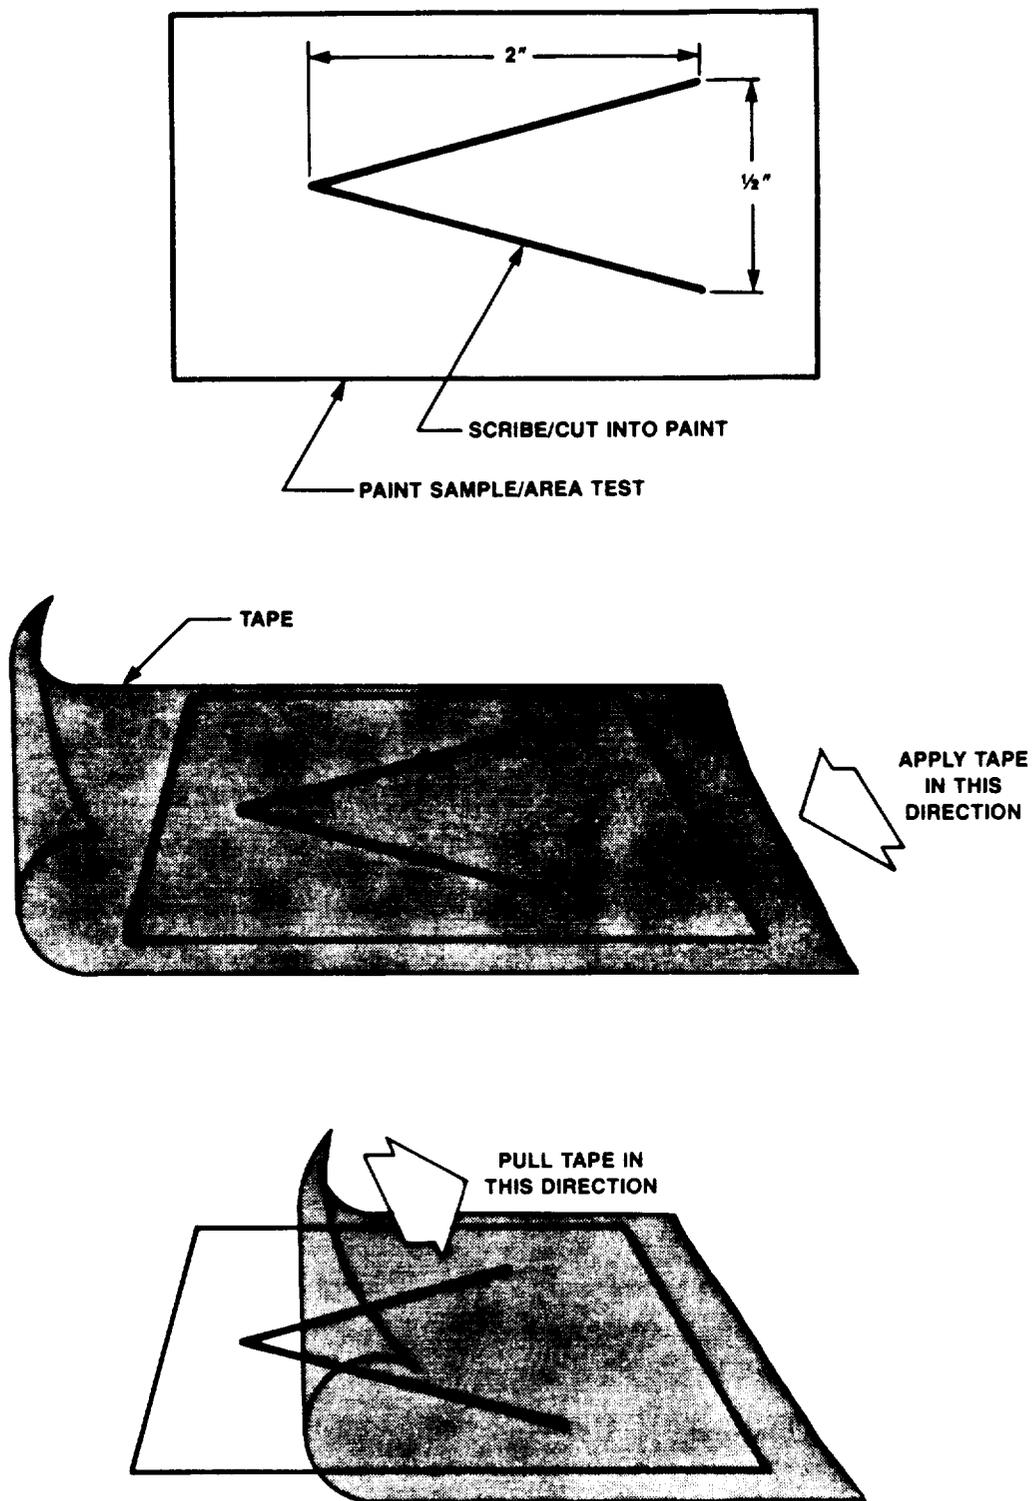

Figure 2-1. Tape Test.
(1) Paint Thickness. Apply paint according to MIL-STD-193 with the following exceptions/additions: The coating film thickness for MIL-P-53022 and MIL-P-53030 is 1.0 to 1.5 mils. Follow manufacturer's painting instructions.
(2) Color/Gloss. Inspect the color of the finish against a manufacturer's paint chip to ensure proper color and gloss.
(3) Brushing/Spraying Properties. Inspect the paint surface to ensure it is smooth and even, free from runs, sags, streaks, or other defects which would interfere with adhesion of next coat.
(4) OVERSPRAY. OVERSPRAY SHALL BE HELD TO A MINIMUM TOLERANCE OF PLUS OR MINUS 1 INCH ON THE THREE COLOR CAMOUFLAGE PATTERN. NO OVERSPRAY IS PERMITTED ON GLASS, RUBBER, CANVAS, DATA PLATES OR OTHER COMPONENTS WHICH ARE NOT NORMALLY PAINTED.
(5) Alignment of the Pattern. Clearly identify reference points and inspect to ensure correct pattern alignment.
(6) Tape Test (Paint Adhesion Test) for all finishes. (See figure 2-1.) Test paint adhesion on two production units per lot. Do not use test panels instead of actual production units. Test the surface after the paint finish has cured on an out of the way place acceptable to quality assurance representatives as follows: